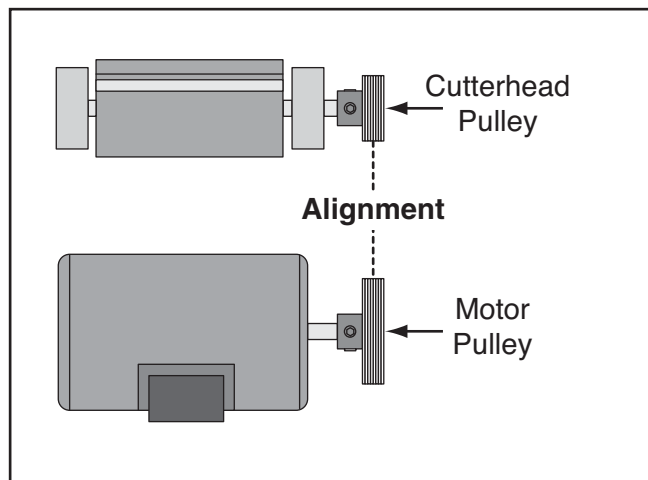

Figure 14. Pulleys aligned.
18. Visually check the alignment of the cutterhead and motor pulleys, as illustrated in **Figure 14**.